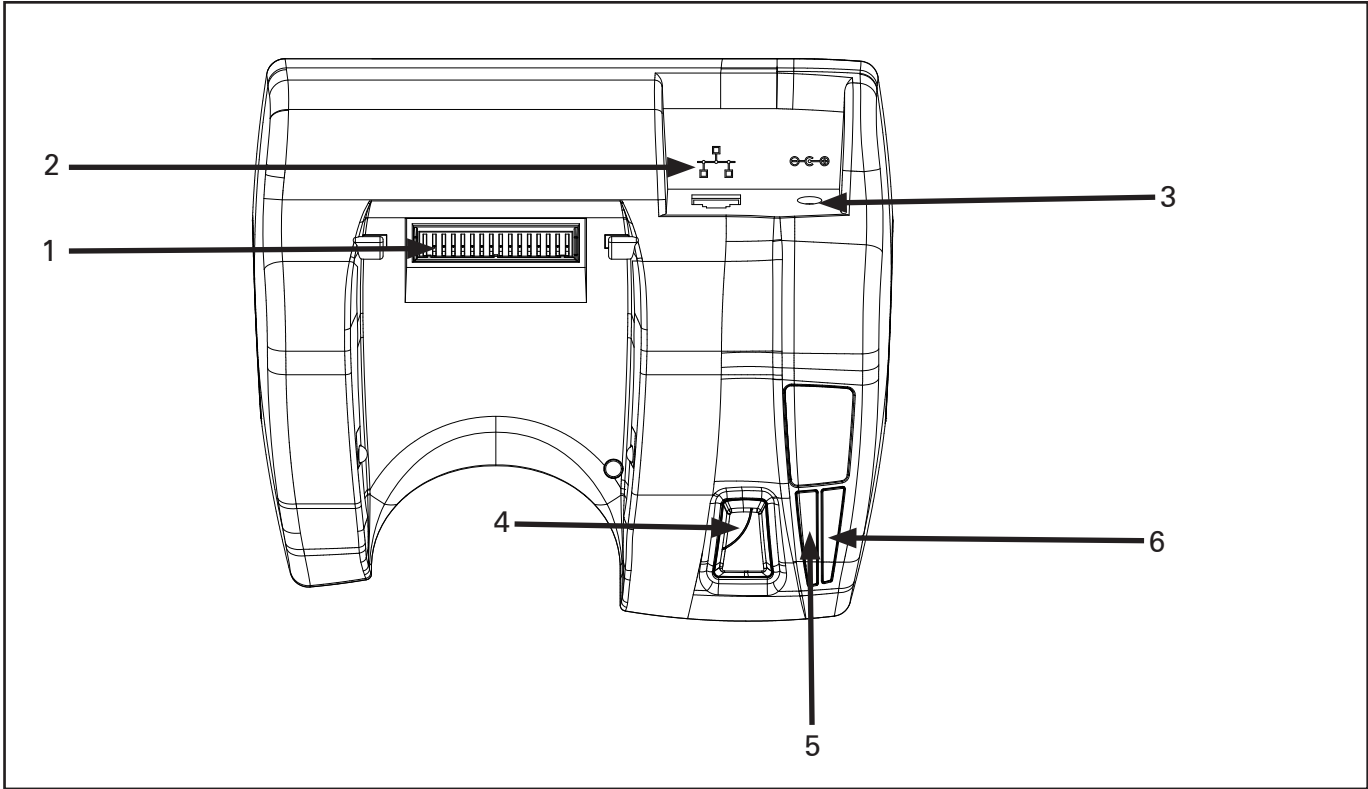

Figure 1: QLnEC
2. Plug the power adapter into the rear of the cradle (Figure 1 #3).
3. Plug the Ethernet cable into the rear of the cradle (Figure 1 #2).